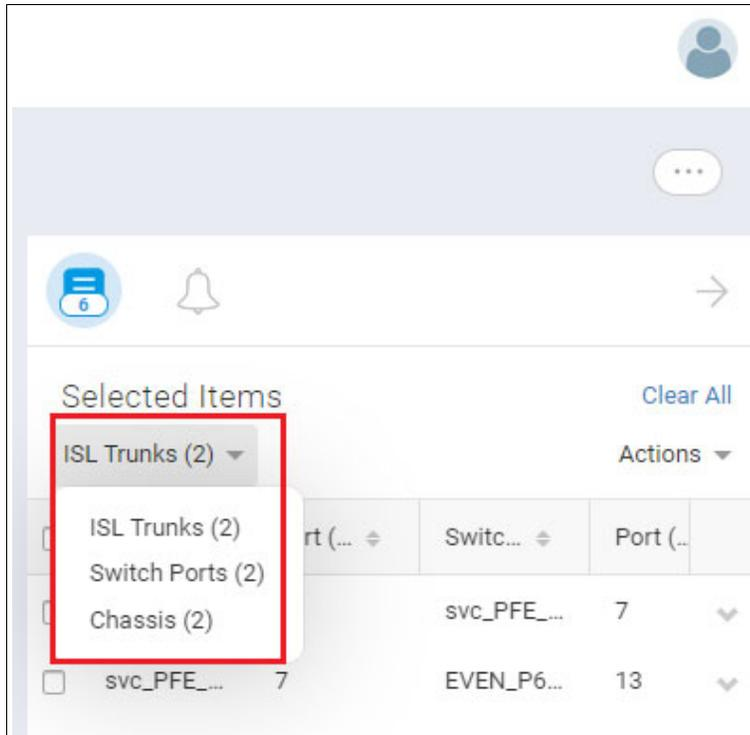

Figure 5-116 Selecting types from the sidebar
7. In the sidebar, select the type of item that you want to investigate from the drop-down menu (Figure 5-116).